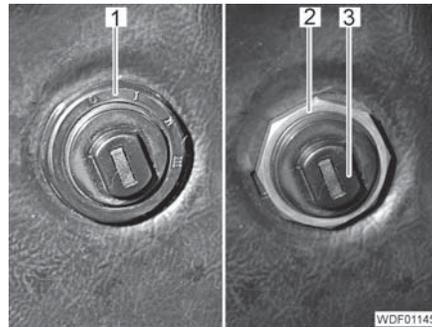

Fig. 431 Ignition lock attachment
- Carefully remove the ring (Fig. 431,1).
- Unscrew the nut (Fig. 431,2).
- Remove the ignition lock (Fig. 431,3).
- Screw the nut (Fig. 431,2) onto the ignition lock and tighten it.
- Fit the ring (Fig. 431,1) onto the ignition lock.